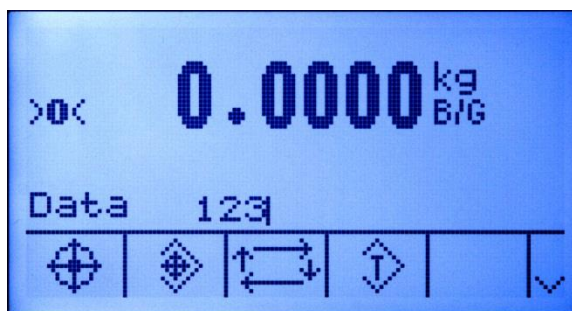

Figure C-5: Data Entry Field
1. Use the numeric keypad to enter the one- or two-digit ID for the tare that is to be used. The data entry screen displays as shown in Figure C-5.
1. Enter the one- or two-digit ID for the tare that is to be used. The display will show the data entry screen as shown in Figure C-5.